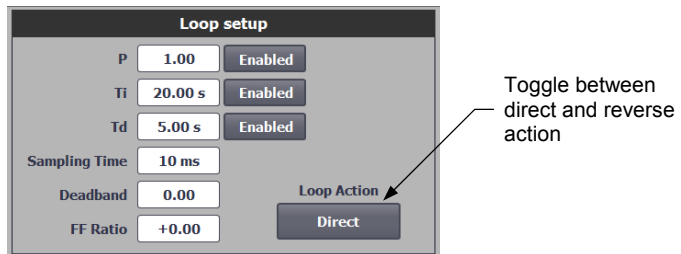

Figure 7. Loop parameters.
In the *Loop setup* section, you can configure the PID parameters of the loop such as the proportional gain (P), the integral time (Ti), and the derivative time (Td) (Figure 7). Each of these parameters has a button to its right to enable or disable it (to set a loop for P control only, for example).